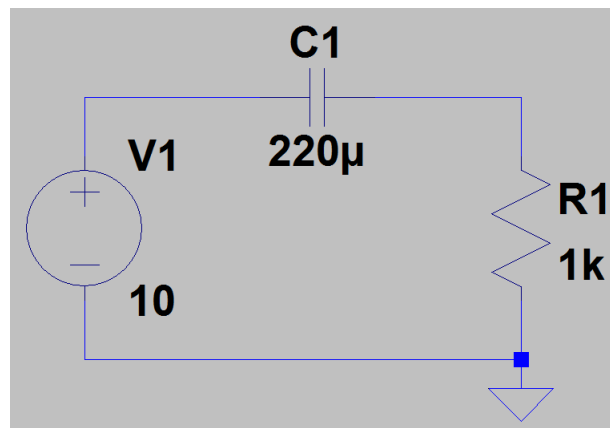

Figure 2: A simple R-C circuit.
Transient analyses will become much more important later in the term when we look at resistor-inductor (RL) and resistor-capacitor (RC) circuits, shown in Fig. 2. One of the things we will learn is that the time constant, τ , of such circuits is given by
But what is the physical meaning of τ ? It is the time taken for the voltages and currents to reach a certain percentage of their final values. Can you use what you have learnt about LTSpice to implement the circuit shown in Fig. 2 and find what percentage this is? Once you have found a value, do some research to find the mathematical basis for this magical percentage.